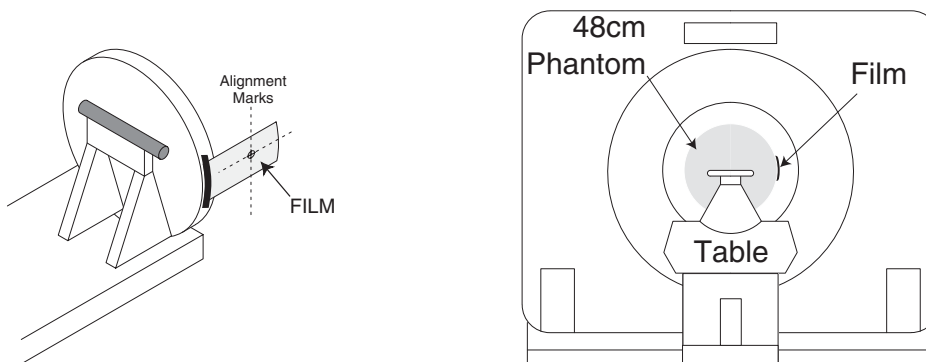

Figure 9-6 48CM Phantom and Film on Table
- 1.) Get the system's phantom holder and attach the 48cm phantom to it. Refer to Figure 9-6.
Only the film should be projecting into the Gantry bore when complete. The phantom is used only to position and hold the film in the gantry bore. Refer to Figure 9-6.